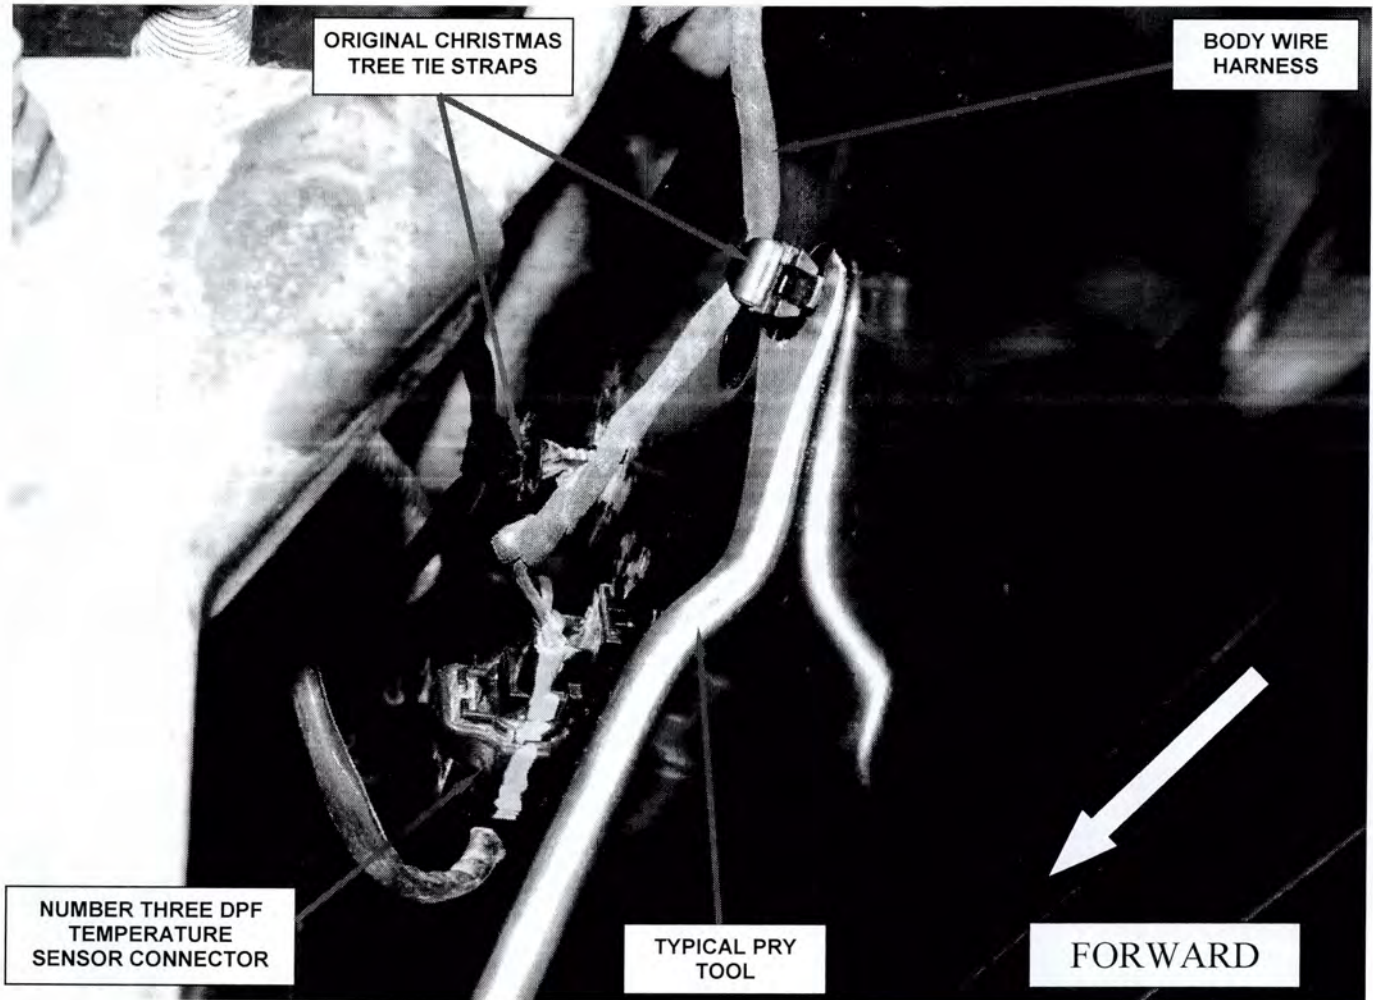

Figure 7 - Detach DPF Temperature Sensor Wire Harness from the Frame Rail
3. Detach the two DPF temperature sensor wire harness Christmas tree tie straps from the frame rail (Figure 7).